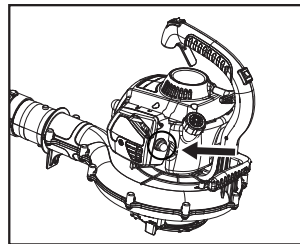

Fig. 7
2. Press the fuel pump (7) 6 times until it fills with fuel (Fig.7).